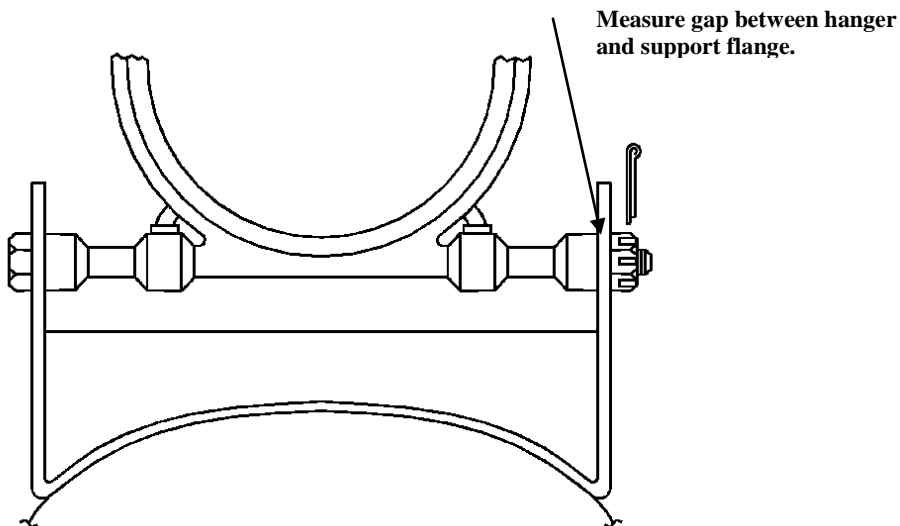

Figure 1, Bearing Hanger and Support
3. Slide the tail rotor bearing hanger on its bolt, until it is against one flange of the bearing support (Figure 1). With the use of a feeler gauge, carefully measure the free gap between the tail rotor bearing hanger and the other flange of the bearing support.